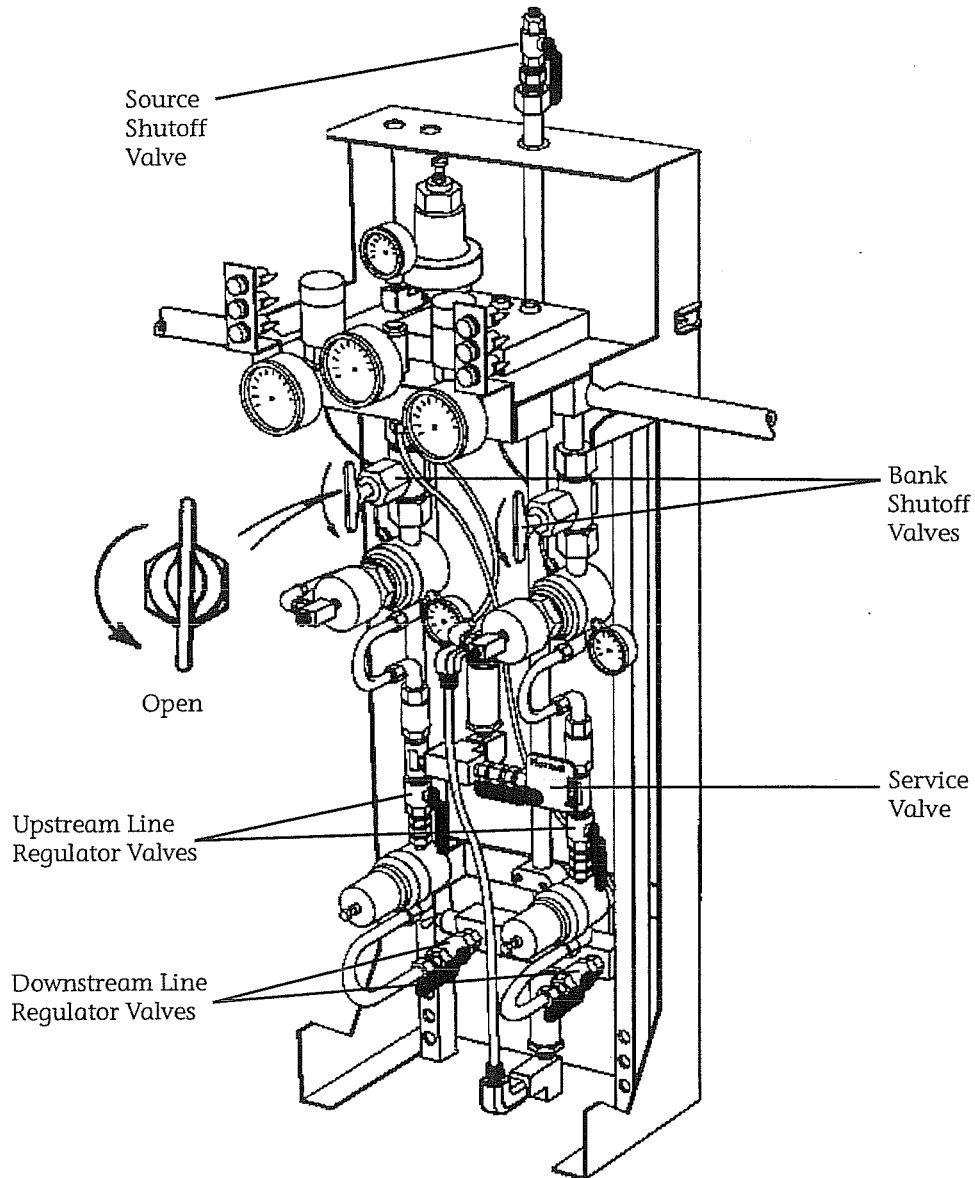

Figure 2-21
2. Make sure the service valve is in the open position. (Figure 2-21)
3. Open completely the left bank shutoff valve and then the right bank shutoff valve. (Figure 2-21)
4. Open completely the left side upstream and downstream line regulator valves and then the right side upstream and downstream line regulator valves. (Figure 2-21)